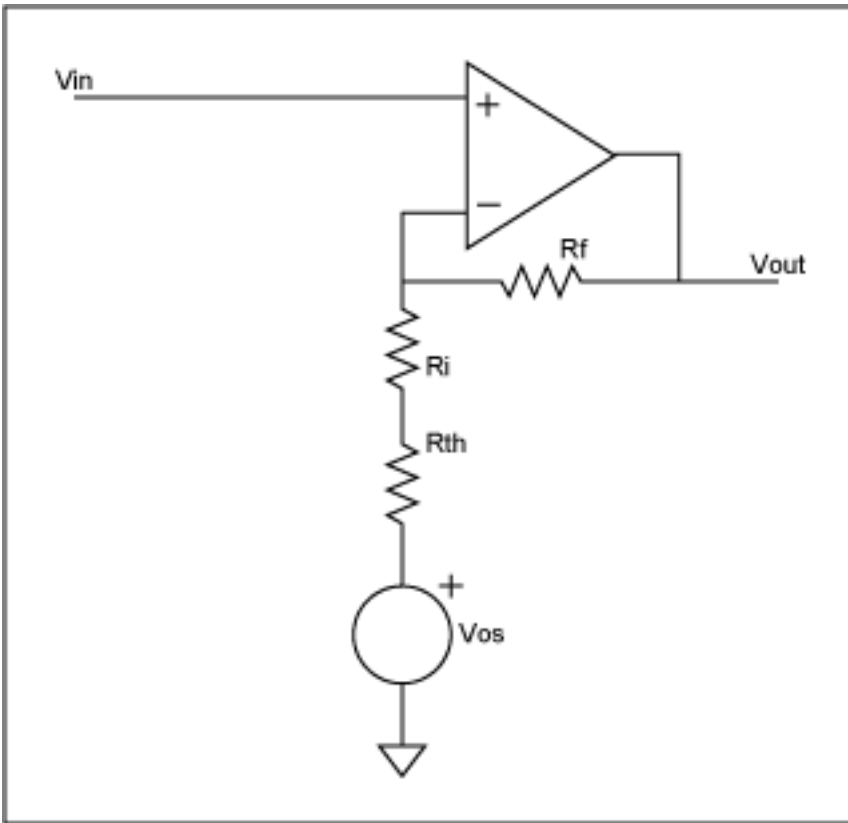

Figure 5. Non-inverting with offset voltage.
From equation (1) we see that  $R_{th} = R_2$ . And from equation (2),  $V_{os} = -(V_{n+} + (V_p - V_n)N) \times (R_2/R_1)$ . Assuming  $R_2 \ll R_i$ , then  $R_2$  can be ignored. Using the Thevenin equivalent network, the circuit simplifies to that shown in **Figure 5**.